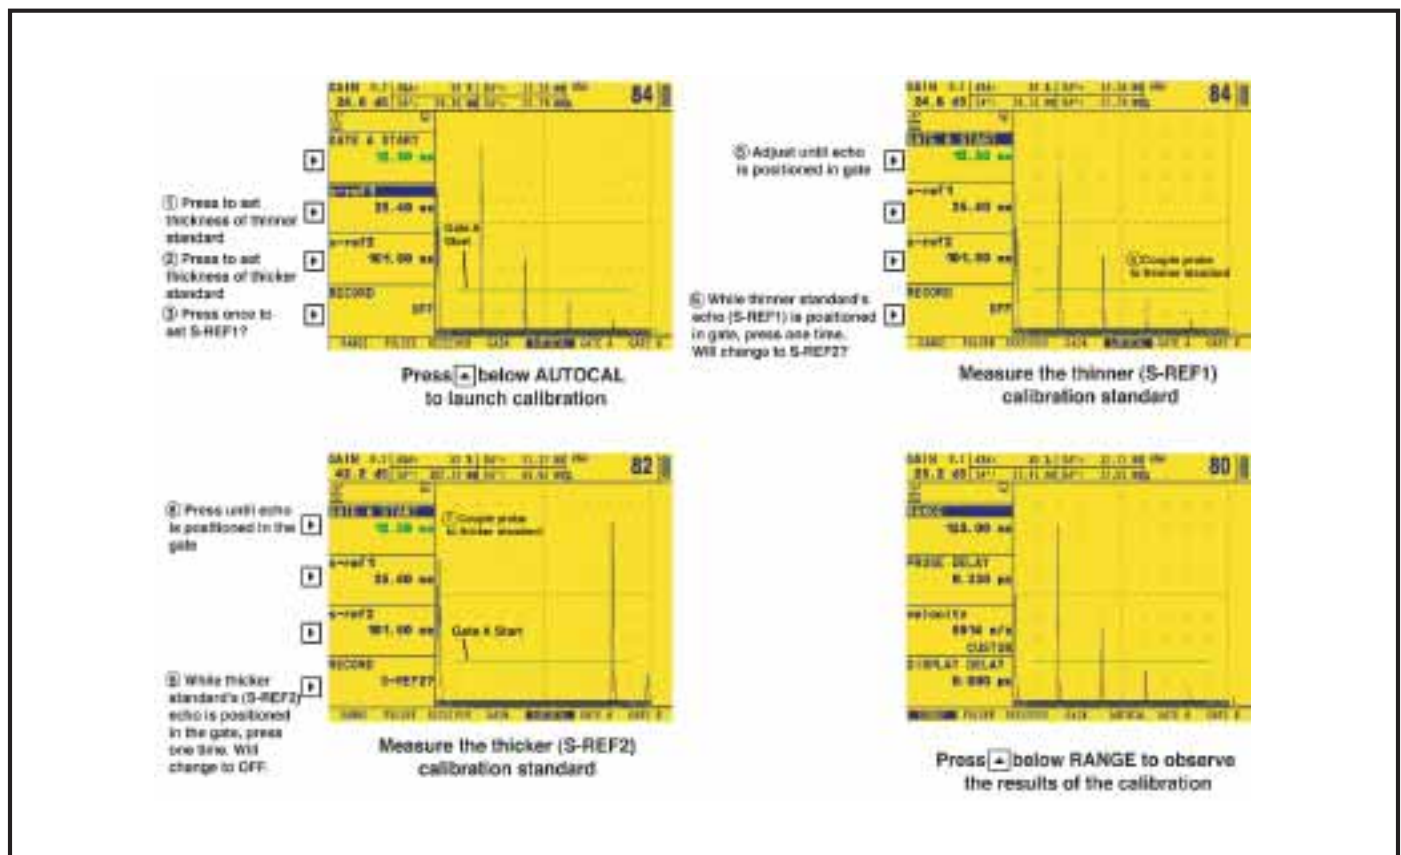

Figure 47: Auto Calibration Procedures
(Read the following while reviewing Figure 47 on the previous page.)
4. Apply couplant and couple the probe to the thinner calibration standard. Press  next to the selection titled A START. Turn the function knob (this will shift the starting point of the A-Gate) until the A-Gate lies over the echo corresponding to the thinner standard's thickness (Figure 47).